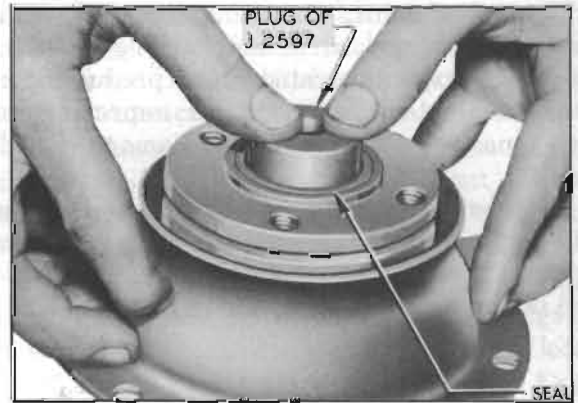

Figure 4-21—Pushing Installing Tool into Universal Joint Oil Seal
8. Assemble sleeve and plug of Installing Tool J 2597 together (fig. 4-20), then push tool through rear side of oil seal until the leather edge is on the plug, at which time the sleeve will drop off the plug. See figure 4-21.